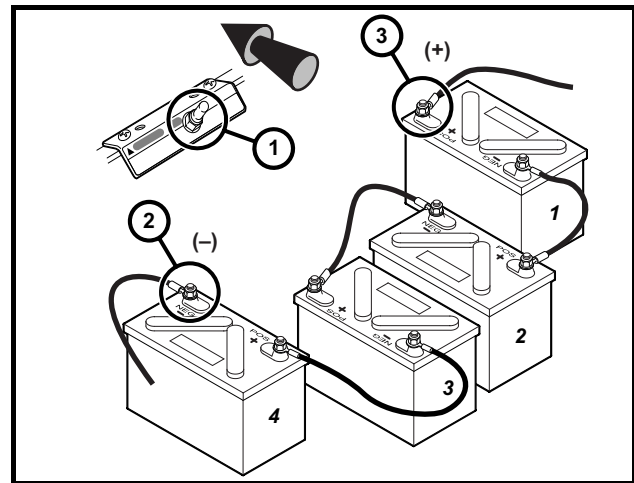
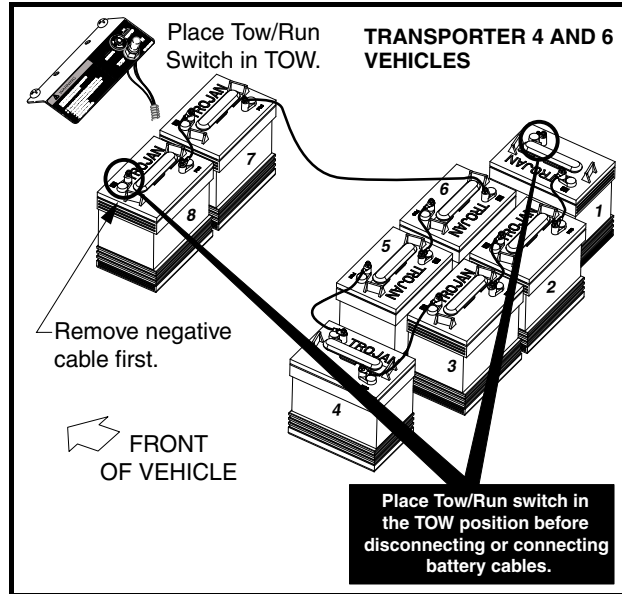
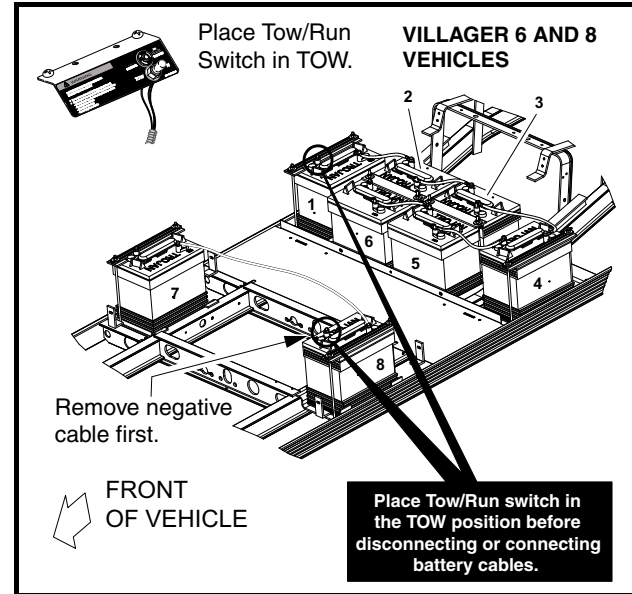

Figure 1-2 Villager 4 IQ System Vehicle
Figure 1-3 IQ Plus Transporter 4 and 6 Vehicles
Figure 1-4 IQ Plus Villager 6 and 8 Vehicles
- To avoid unintentionally starting the vehicle, disconnect the batteries as shown (Figure 1-2, Page 1-3 or Figure 1-3, Page 1-4 or Figure 1-4, Page 1-4).
3. Disconnect the batteries, negative (–) cable first, as shown (**Figure 1-2, Page 1-3**) (**Figure 1-3, Page 1-4**) (**Figure 1-4, Page 1-4**).